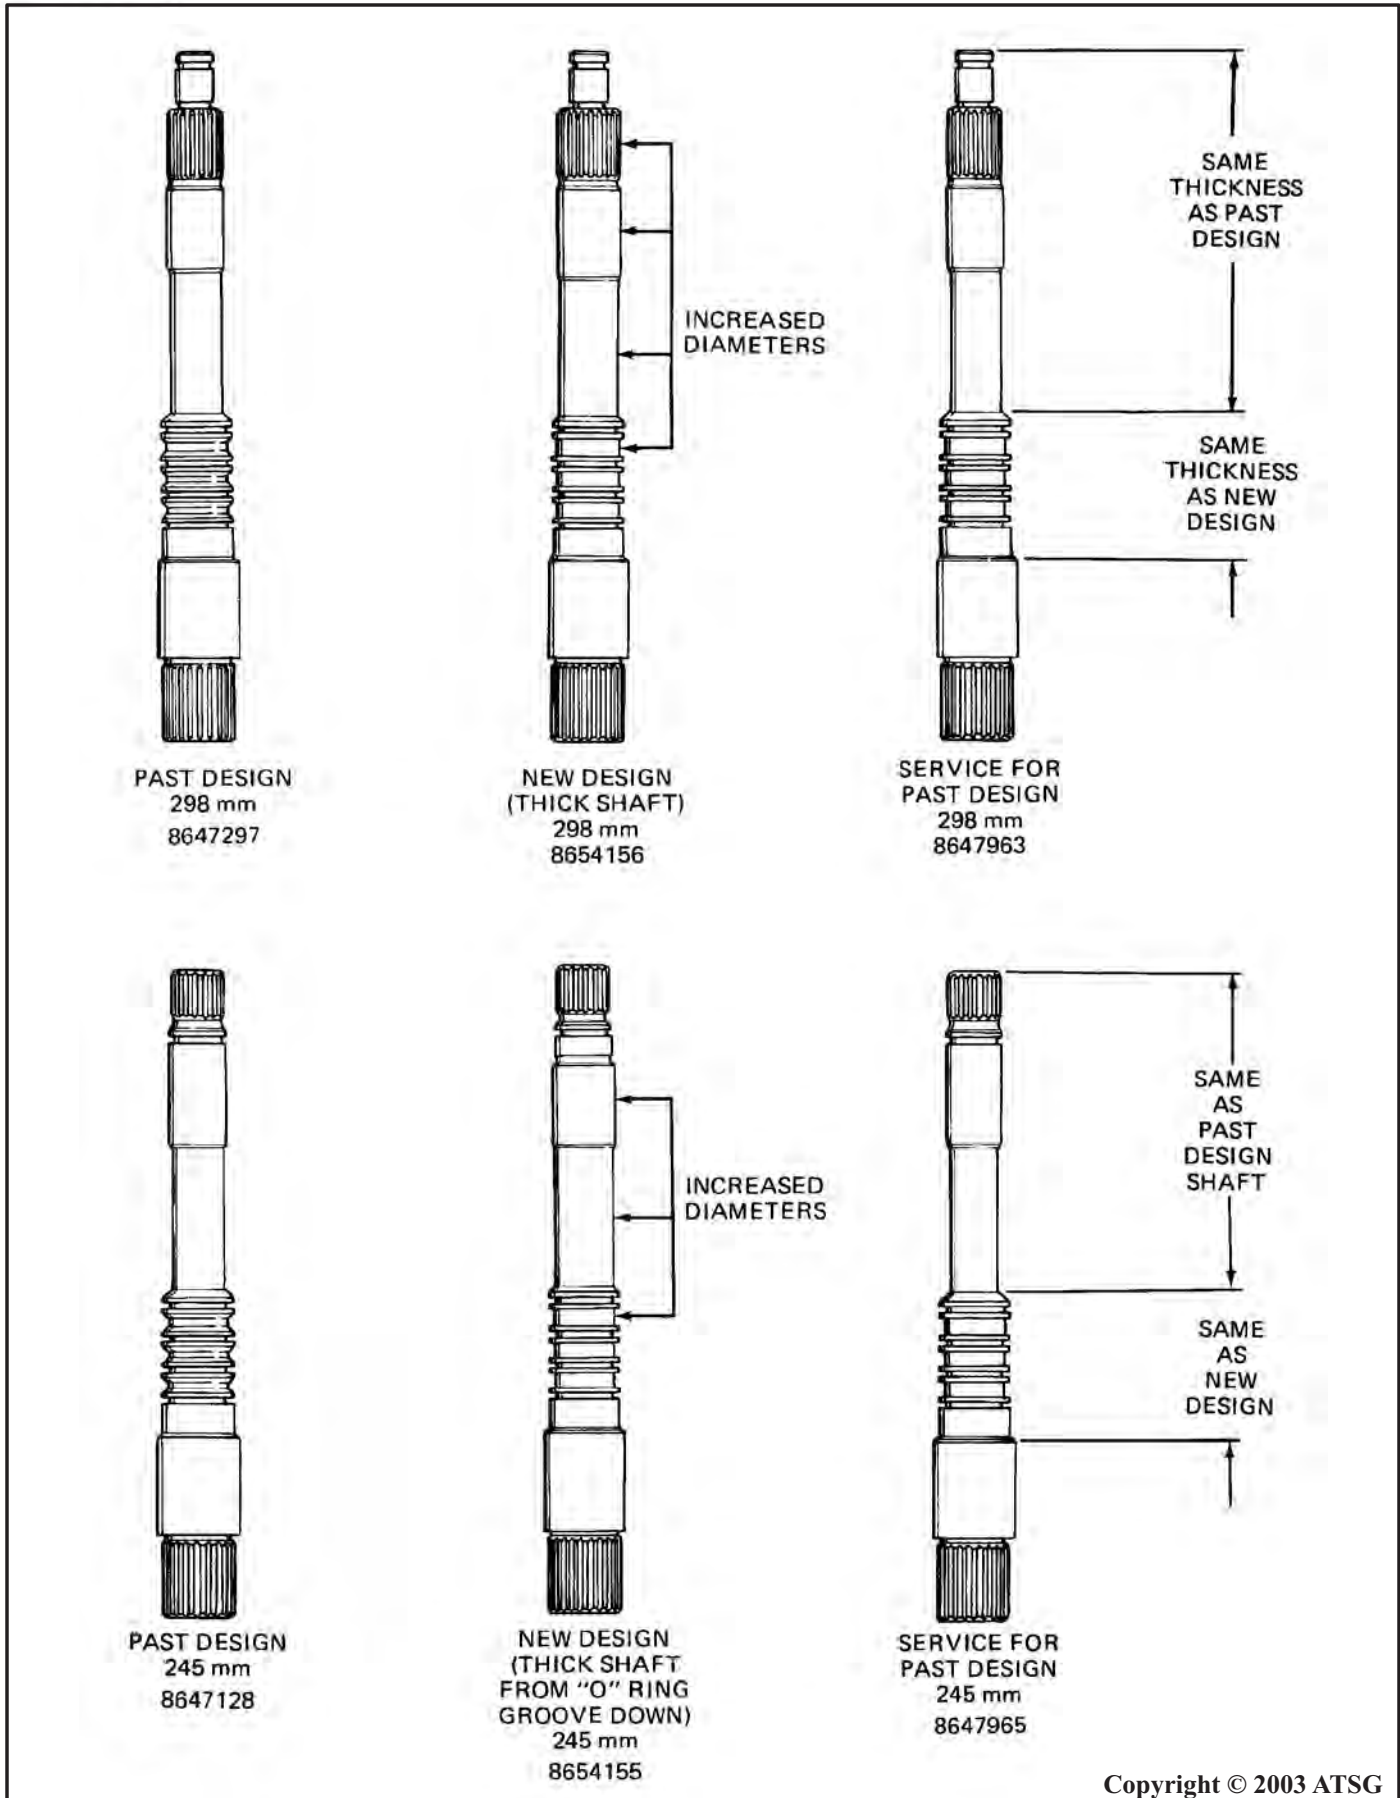

Figure 8
CHANGE: Beginning late in the 1984 model year, Hydra-Matic introduced new design turbine shafts that were larger in diameter, as shown in Figure 8.
- (1) **TURBINE SHAFT** - Increased diameter between the sealing rings, increased diameter of the bushing journal area where it rides in the pump cover, and increased spline diameter for the 298mm converter only, as shown in Figure 8.
In an effort to keep the cost of repairing the transmission to a minimum, another service turbine shaft and input housing was produced to service the 1982 through 1984 models using the original pump cover and torque converter, as shown in Figure 8. The 3rd design turbine shaft is a larger diameter only in the area between the sealing rings where it would crack or break, as shown in Figure 8.